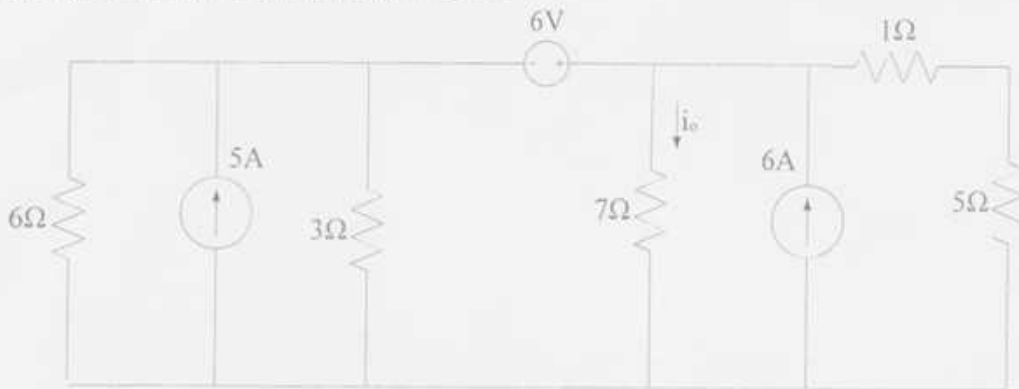

Figure 7
- b. Use source transformation to find i_o in Figure 7 [13]